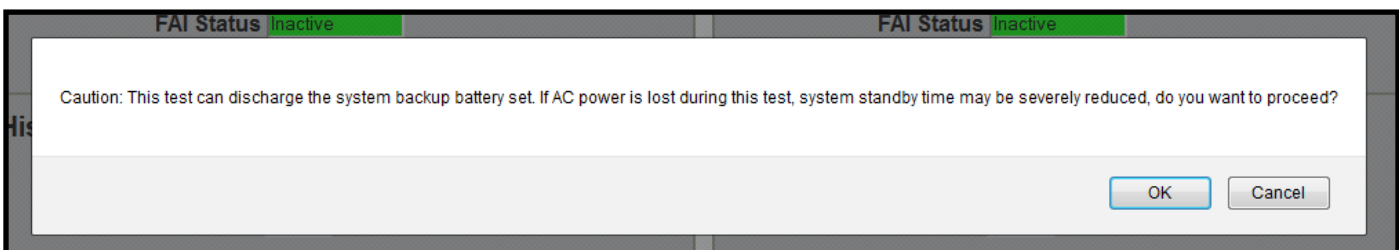

Figure 3.5 - Battery Run Time Test Warning
- Click the "Start Manual Test" button. A warning message will appear (Figure 3.5). Click OK to begin the test.